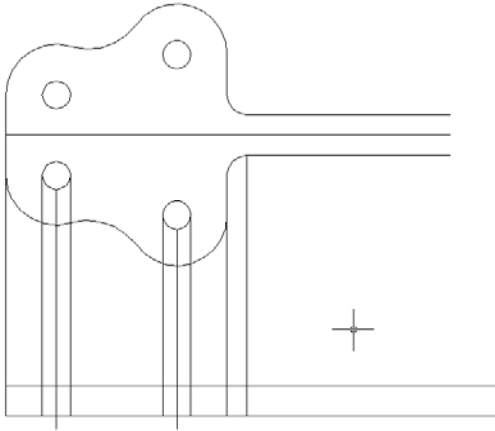

Figure 10.18 – Offset a Line 15 mm
Now, select the Offset tool on the Modify toolbar. On the command line, you are asked for the offset distance, and type in 15 and press Enter. Pick the bottom line and offset the next line a little above the baseline. A new line will be added to the drawing 15mm above the baseline. (See Figure 10.18) We will offset another line to make the centerline of the bracket's loop, so to stay in the command by pressing the Enter key twice. After pressing the enter key twice and typing in the next offset distance of 150, press Enter at the command line. Offset the line coming off the south quadrant of the left hole by selecting this centerline and then pick to the right of the line to offset a new line 150mm. (See Figure 10.18) This newest of lines in your drawing will be used as a guide to draw the two circles making up the loop of the bracket.
**\* World Class CAD Challenge \* - Create a New file using the Metric template, and draw the 31 entities shown in Figure 10.18 in 2 minutes 35 seconds. Continue this drill four times, each time completing the drawing under 2 minutes 35 seconds to maintain your World Class ranking.**